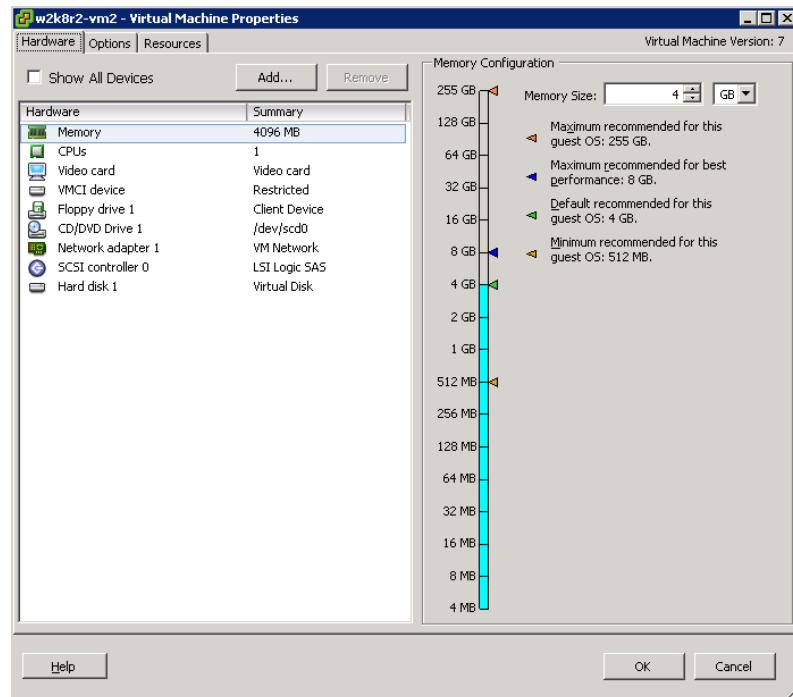

Figure 5-21. Virtual Machine Properties Window
6. Click **Add** in the Virtual Machine Properties window to add a device to the virtual machine (Figure 5-21).